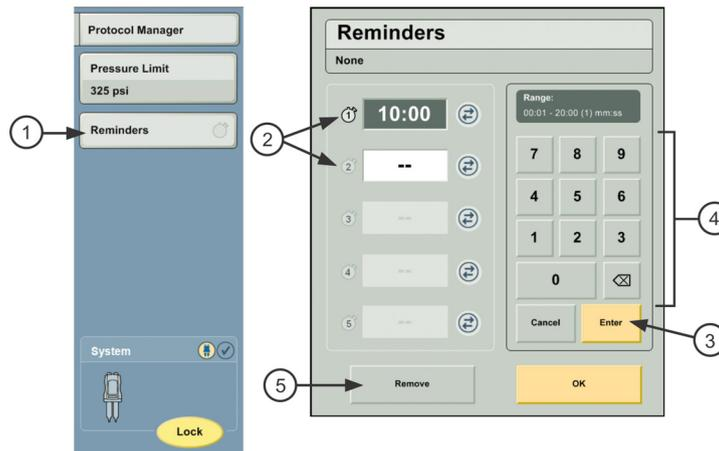

Figure 8 - 4: Enter Reminders
- a. Select **Reminders** (1) (Figure 8 - 4: Enter Reminders).